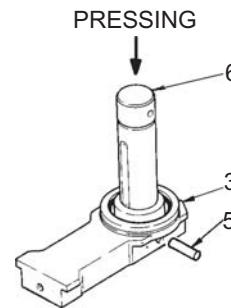

Fig. 34-50 Installing collar (3), shaft (6)
3) Installing collar (3) (See Fig. 34-50)